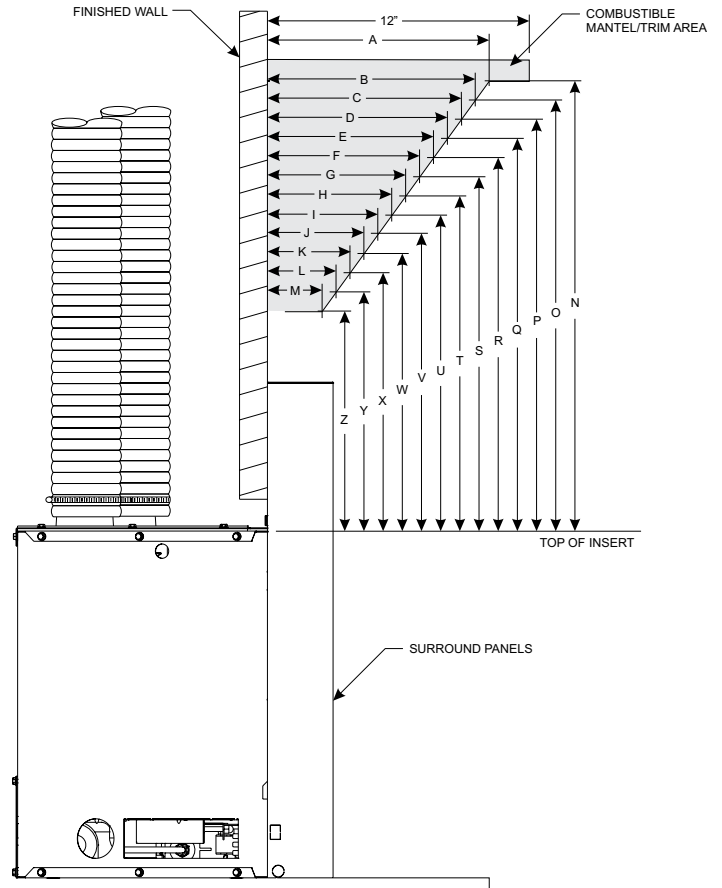

**Figure 1**
2. Minimum fireplace opening requirements are shown in **Figure 1** of this installation manual. The firebrick (refractory), glass doors, screen rails, screen mesh and log grates can be removed from a factory built fireplace in order to gain minimum gas insert opening requirements prior to installing the gas fireplace insert.